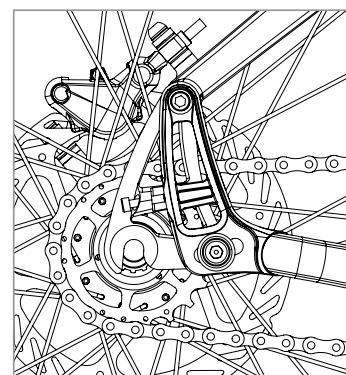

Figure 6
- Turn the driveside tension screw until proper chain tension is achieved and/or adequate tire clearance is reached (FIG 6)